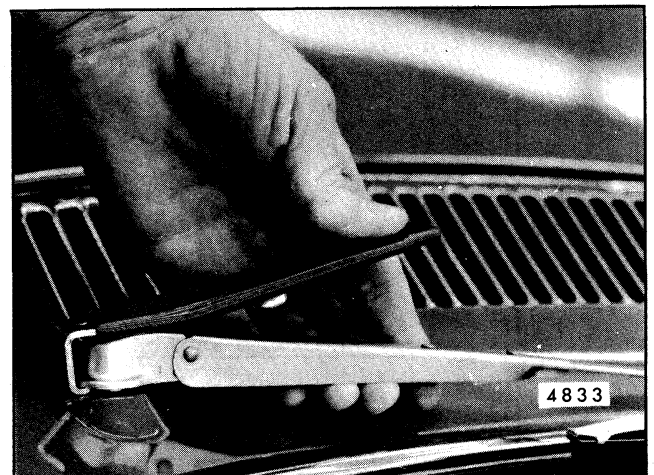

Fig. 2-7-Wiper Arm Removal Tool J-8966 (Or Equivalent)
1. To remove the wiper arm and blade assemblies use tool J- 8966 or equivalent to minimize the possibility of windshield or paint finish damage during removal operation (Fig. 2-7).